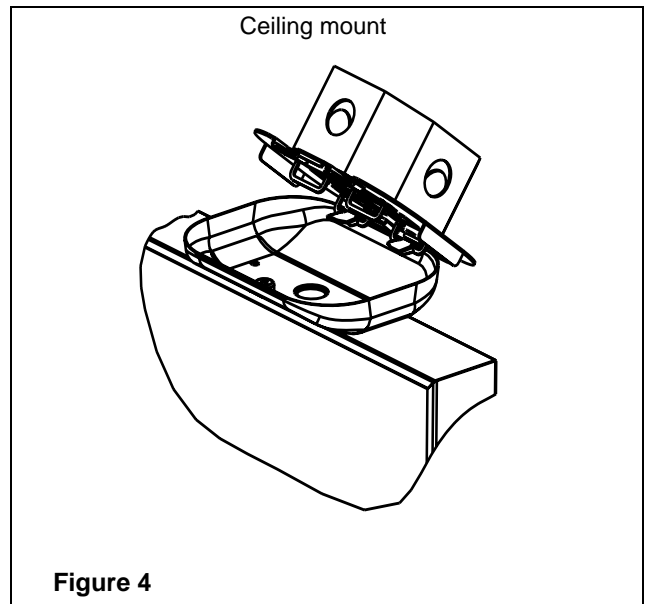

Figure 4
- e. Fasten the canopies to the exit using #8-32 short screws and keps nuts provided (see fig. 4).
- f. Make the proper wire connections. The “Quick-install” canopy is equipped with ribs allowing you to hang the unit to the spider plate to facilitate wiring (See fig.4). Feed the excess wire into the junction box and secure the canopy to the junction box using the long screw provided(8).